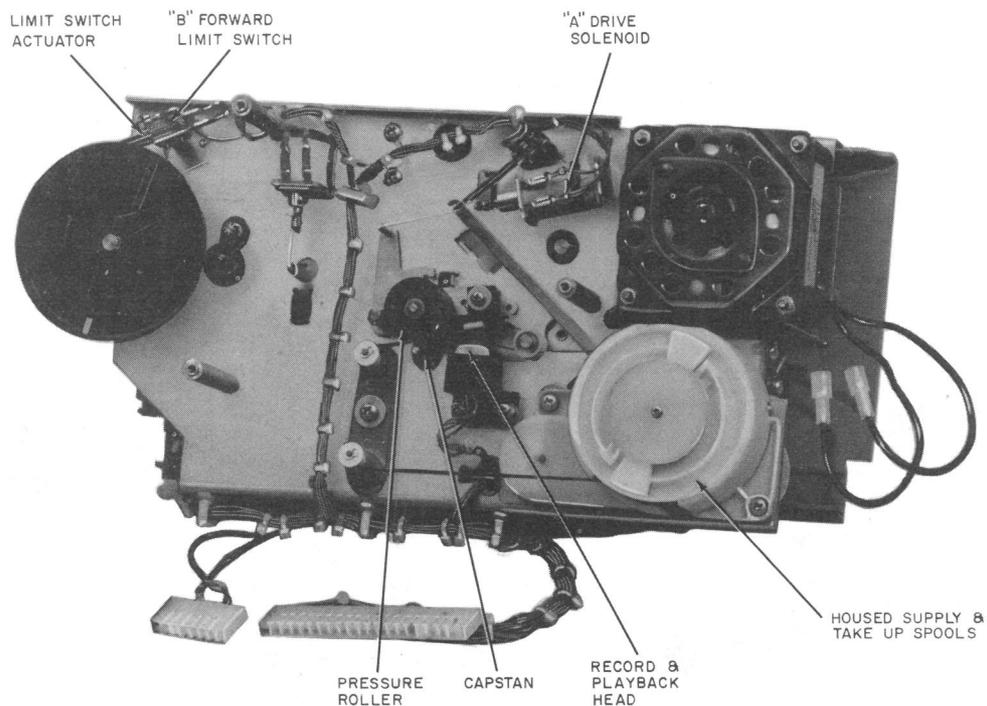
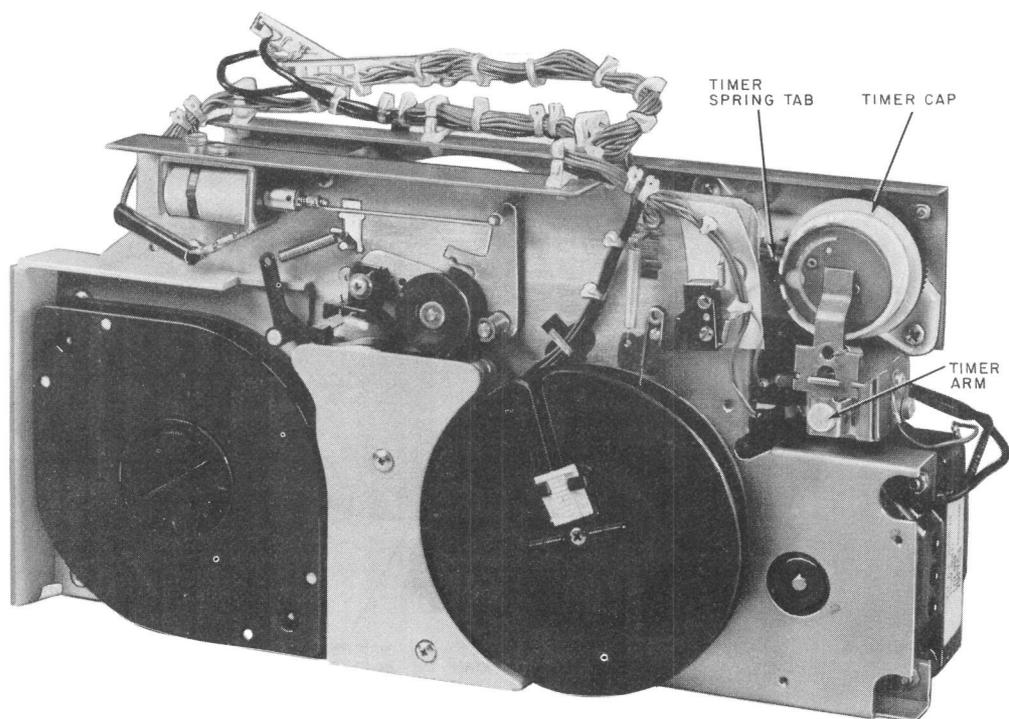

Fig. 11—KS-19245, List 21 Tape Deck With Trimplate Removed (Announcement Side)
Fig. 12—KS-19245, List 21 Tape Deck With Trimplate Removed (Message Side)
3.02 Components of the KS-19245, Lists 13 (MD), 24 (MD), and 26 telephone answering sets are as follows.
- (a) **The KS-19245, List 22 Tape Deck** (Fig. 11 and 12) contains both the announcement and message recording mechanism. The announcement record mechanism (Fig. 11) provides a maximum recording capacity of 3 minutes and incorporates a variable cycle feature that limits the reproduce cycle to the duration of the recorded announcement only. This recorder is equipped with 1/4-inch wide plastic base magnetic recording tape installed on special reels. The tape and reels form an integral part of the recording mechanism and **cannot** be changed by the customer since replacement of either requires partial disassembly of the mechanism. Facilities are provided for limiting the maximum recording time to 15-second increments (from 15 seconds to 90 seconds) or 30-second increments (from 90 seconds to 180 seconds). This is done by adjusting the timer cap. The adjustment may only be made by the installer. The incoming message recording mechanism (Fig. 12) provides a maximum recording capacity of 2 hours on 1/4-inch wide plastic base magnetic recording tape. This tape is contained in the KS-
19245, List 6 cartridge which may be conveniently changed by the customer. Facilities are provided for limiting the message recording time to 1 or 2 hours. This is done by adjusting the limit switch actuator (Fig. 11). The adjustment may only be made by the installer.